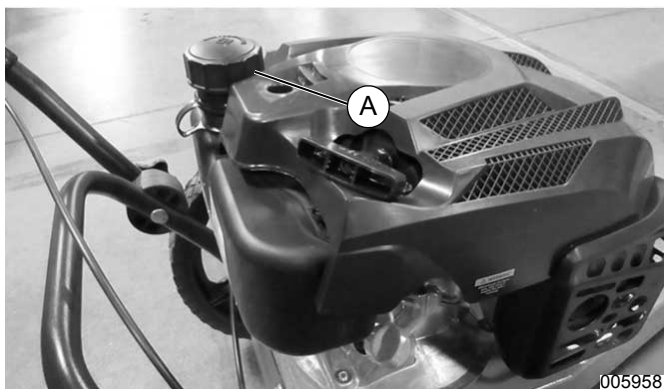

Figure 2-9. Fuel Cap Location
3. See Figure 2-9. Clean area about fuel cap (A) and remove cap slowly (A).